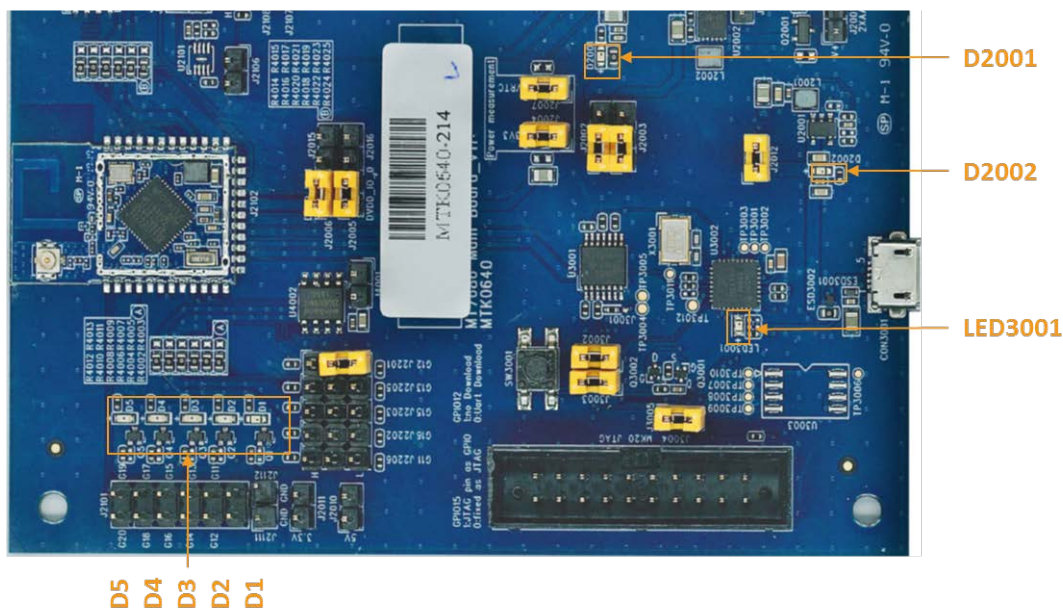

Figure 6. On-board LEDs
The MT7686 HDK has onboard LEDs associated with different functionalities of the board (Figure 6).
- 4) **D1**, **D2**, **D3**, **D4**, and **D5** are LEDs assigned for user interaction. All LEDs are high active (Figure 6).